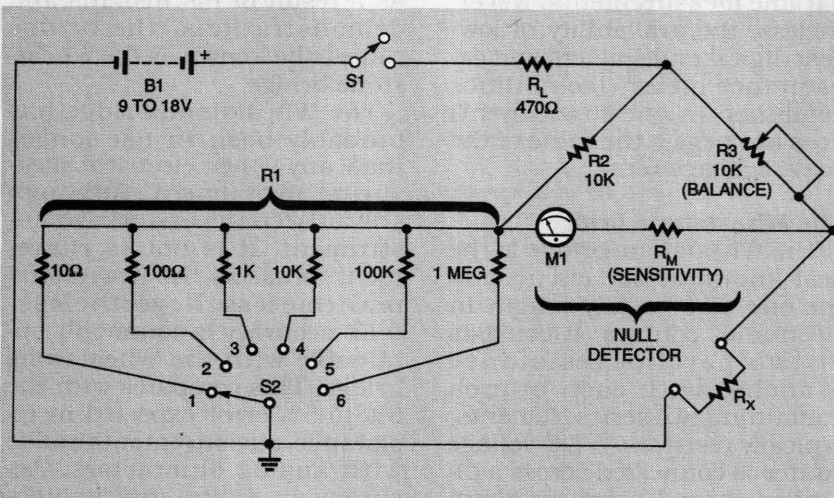

FIG. 3—WHEATSTONE BRIDGE with six DC measuring ranges.
The bridge can be further modified as shown in Fig. 3 by giving R_2 a fixed value and making R_1 switch-selectable. This version is based on a 1970 version, high-accuracy laboratory measuring instrument.
The circuit in Fig. 3 can measure DC resistances from near-zero to 1 megohm in six switch-selected decade ranges. Resistor R_3 is a calibrated 10-kilohm variable potentiometer that controls the sensitivity of the balance-detecting center-zero meter. The value of R_L limits bridge current to a few milliamperes. Table 1 lists the major weakness of this 1970 Wheatstone bridge—its null sensitivity (which is proportional to the R_x test voltage) degrades in proportion to the R_1/R_2 ratio's divergence from unity.
0.3% on the 100-ohm and 1-megohm ranges where the $R1/R2$ ratios are 1/100 and 100/0, respectively. To be a practical instrument, the Fig. 3 circuit must include a sensitive null-balance detector.
range version of this circuit, and Table 2 lists its benefits over the circuit in Fig. 3. Its null sensitivity (which is proportional to the $R3/R2$ ratio at balance) is very high on all ranges, and varies from 0.003% at $R3$'s full scale balance value, to 0.03% at one-tenth of full scale.